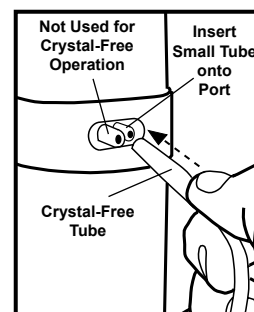

Figure 13
- Insert the waste removal tube designed for use with the crystal-free tips onto the **waste port** of the Crystal Capsule™ (fig. 13).